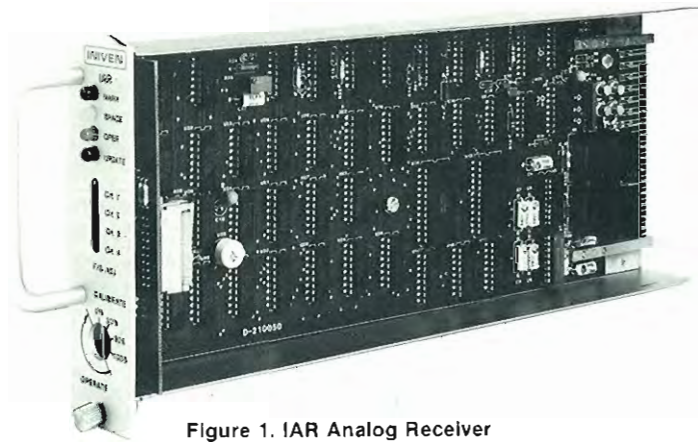

Figure 1. IAR Analog Receiver
1. DESCRIPTION. (See Figure 1)